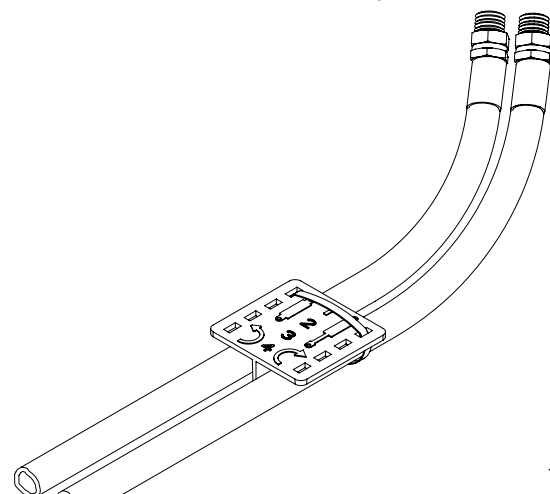

Figure 4
4. Using orange cable ties, secure a plastic hose holder to each pair of hydraulic hoses near tractor outlets. See Figure 4.
6. Using orange cable tie, secure plastic hose label to hydraulic hoses near tractor outlets. See Figure 4.